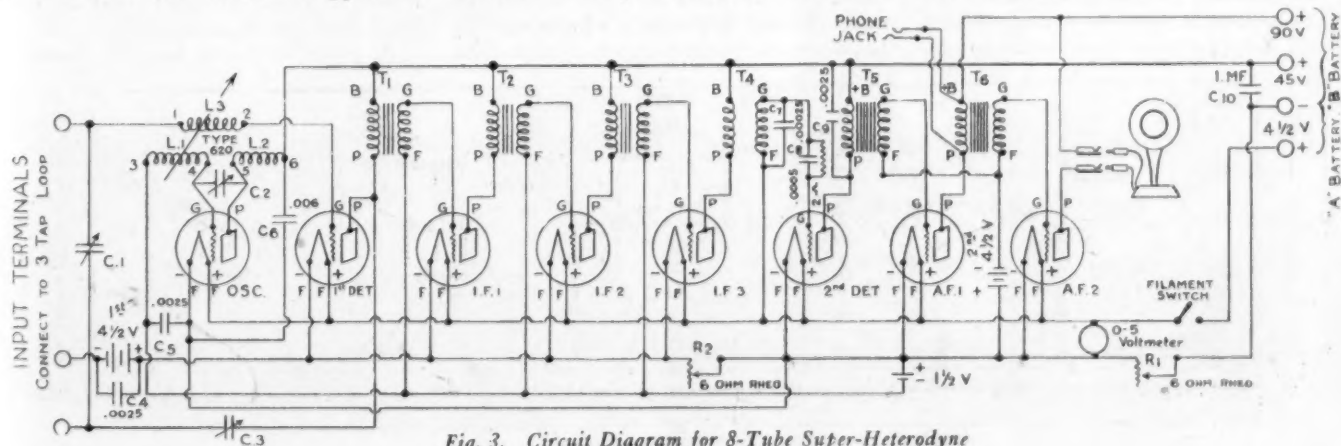

Fig. 3. Circuit Diagram for 8-Tube Super-Heterodyne
FIG. 3 shows the circuit. It is readily analyzed in four sections: (1) The local oscillator for generating the heterodyne frequency and the preliminary detector in which the incoming wave and the locally generated oscillations are mixed (tubes marked OSC and 1st Det. with associated circuits); (2) three stages of 45,000 cycle intermediate frequency amplification (tubes IF₁, IF₂, IF₃ and associated transformers T₁, T₂, T₃, T₄); (3) the final detector (marked 2nd Det.); and (4) two stages of audio frequency amplification (tubes AF₁ and AF₂ and associated transformers T₅, T₆).